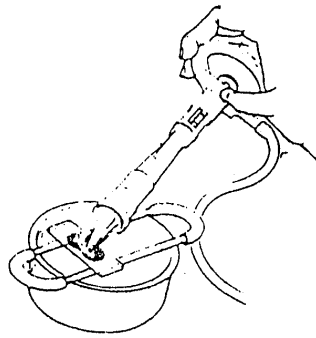

Figure 25-4 : Heating process of the Schaeffer-Fulton stain procedure.
- 3) Heat this stain-flooded slide to steaming by inverting your Bunsen burner and passing the flame over the stain periodically, as shown in Figure 25-4. When you observe steam rising from the slide, remove the burner. When the steaming stops, pass the flame over the stain again briefly. Do not boil or allow the stain to dry. Steam for at least 3 to 5 minutes, replacing the malachite green if it evaporates from the slide.